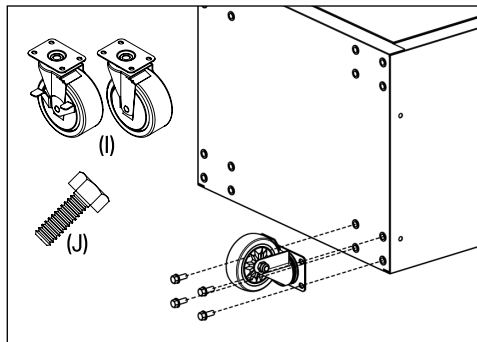

Fig. 3
7.3 Fitting the Roller Cabinet (4) & (5) Castors (Fig.3)